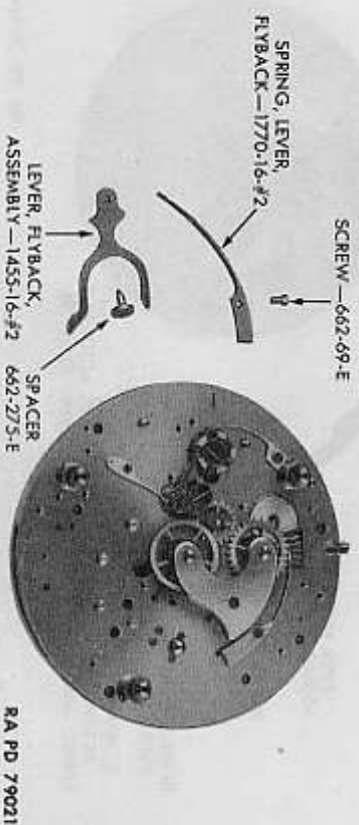

Figure 195 — Elgin Stop Watch — Fly-back Lever Assembly Removed
- g. Remove Fly-back Lever and Spring (fig. 195). Remove fly-back lever spring screw and spring. Remove fly-back lever screw and lift fly-back lever off its stud.
e. **Replacing Fly-back Lever Assembly.** Replace fly-back lever on its stud on the pillar plate. Replace lever spring and secure with screw. Replace fly-back lever screw (fig. 195).